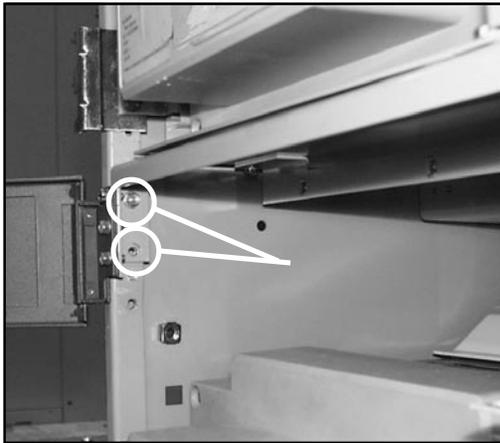
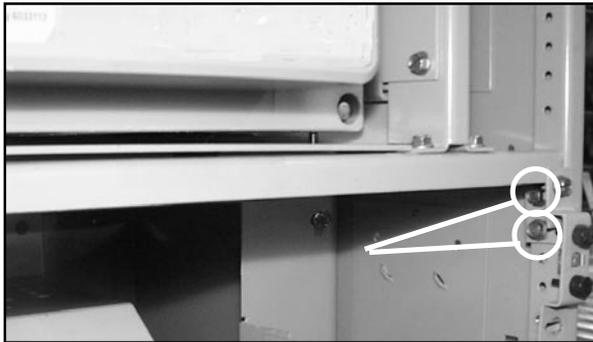
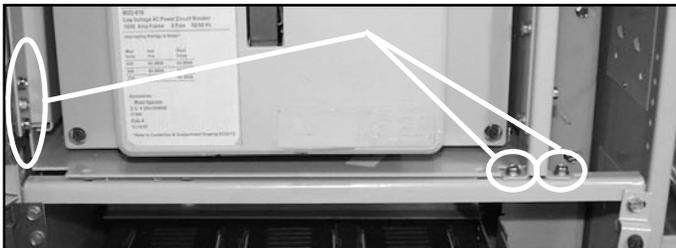

Figure 3-5.10L
Figure 3-5.10R
Figure 3-5.10T
Step 10. Remove the top half of the divider frame located below the breaker cell by removing the two remaining screws holding the left side of the top divider frame (Figure 3-5.10L). Then remove the two screws holding the right side (Figure 3-5.10R). Remove the three screws holding the lower door hinge and the two screws attaching the frame to the bottom of the post (Figure 3-5.10T). Remove the seven screws holding the post (Figure 3-5.10P). Then the divider pan can be slid out of the cell giving access to the load side connections (Figure 3-5.10).